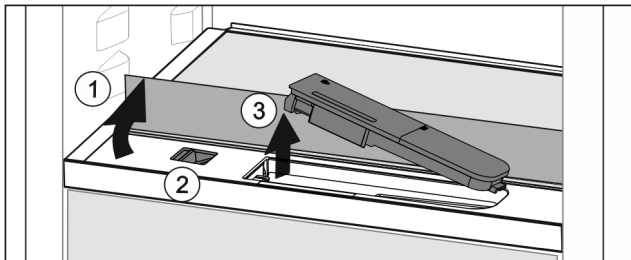

Fig. 52
- ▶ Lift the glass panel and fold towards the rear until it clicks into place Fig. 52 (1).
- ▶ Slide the slider Fig. 52 (2) to the left.
- ▶ Remove the water tank Fig. 52 (3).